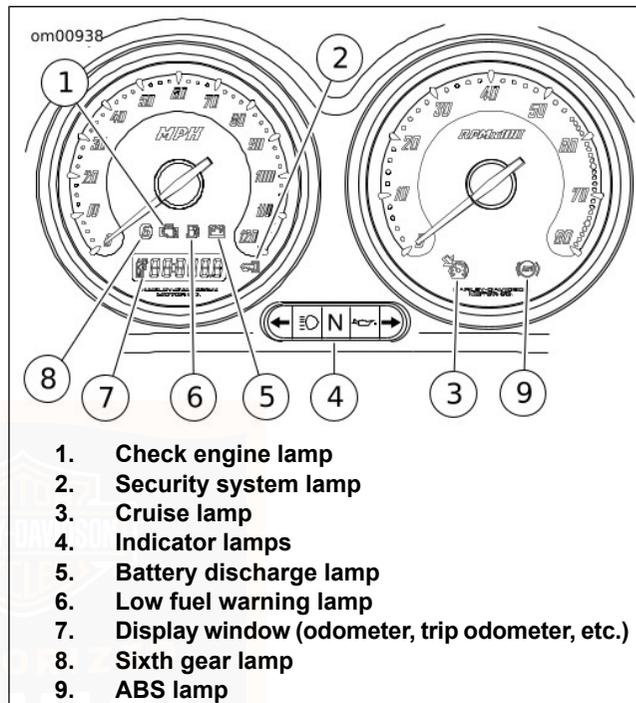

Figure 8. Instrument Lamps
See Figure 8. The engine check lamp is located along the bottom of the speedometer face. Its purpose is to indicate whether the engine/engine management system is operating normally. The engine lamp color is amber.
See Figure 8. The low fuel lamp is located in the speedometer face, lower center by check engine lamp. The low fuel lamp illuminates to indicate that you have approximately 3.8 L (1.0 USgal) of gasoline left in the tank. The low fuel lamp color is amber.
See Figure 8. The red battery charging lamp indicates either overcharging or undercharging of the battery. Refer to
- See Figure 8. A green or orange lamp on the tachometer or speedometer face indicates the cruise control is SET (green) or NOT SET (orange).
See Figure 8. The sixth gear lamp on the speedometer face indicates when the transmission is in sixth gear.
See Figure 8. The red security system lamp on the speedometer face indicates when the security system is armed. Refer to SMART SECURITY SYSTEM > HARLEY-DAVIDSON SMART SECURITY SYSTEM (Page 97).
See Figure 8. On ABS equipped models, the amber ABS indicator lamp begins to flash at key ON to indicate that the system is operational. It continues to flash until motorcycle speed exceeds 5 km/h (3 mph). Continuous illumination of the lamp will only occur when ABS detects that the system is malfunctioning. In the diagnostic mode, the lamp will also illuminate to indicate the presence of diagnostic trouble codes (DTCs). See a Harley-Davidson dealer for service.